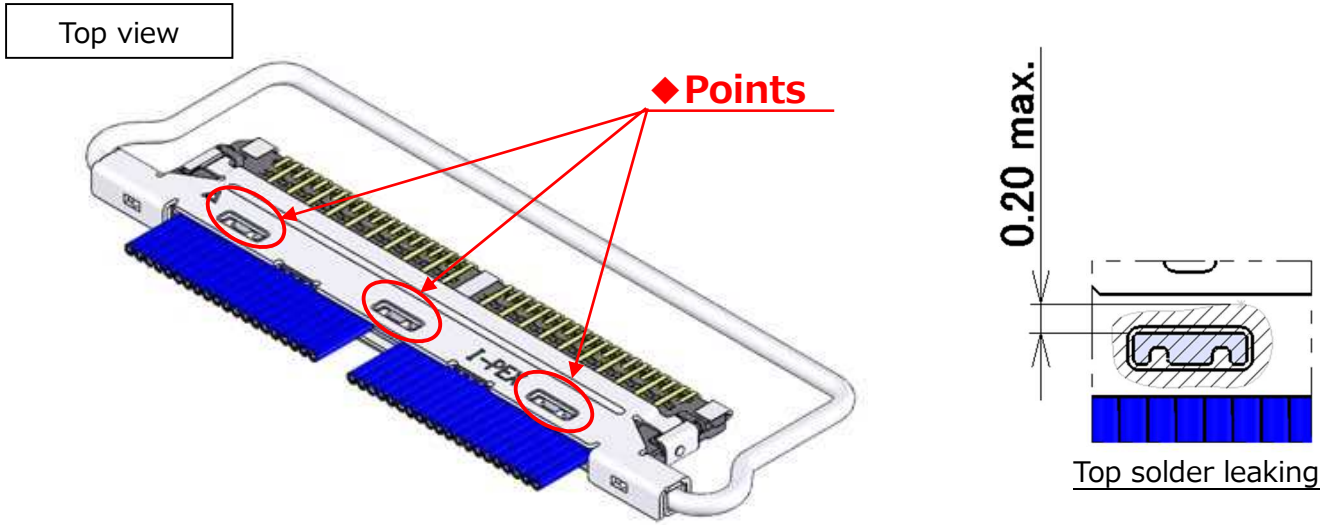

Fig.12 Soldering of Shell-A and Ground Bar
- ② Soldering SHELL-A, B and Ground Bar with the soldering iron at all designated points is recommended. (Fig.12,13 ◆point)